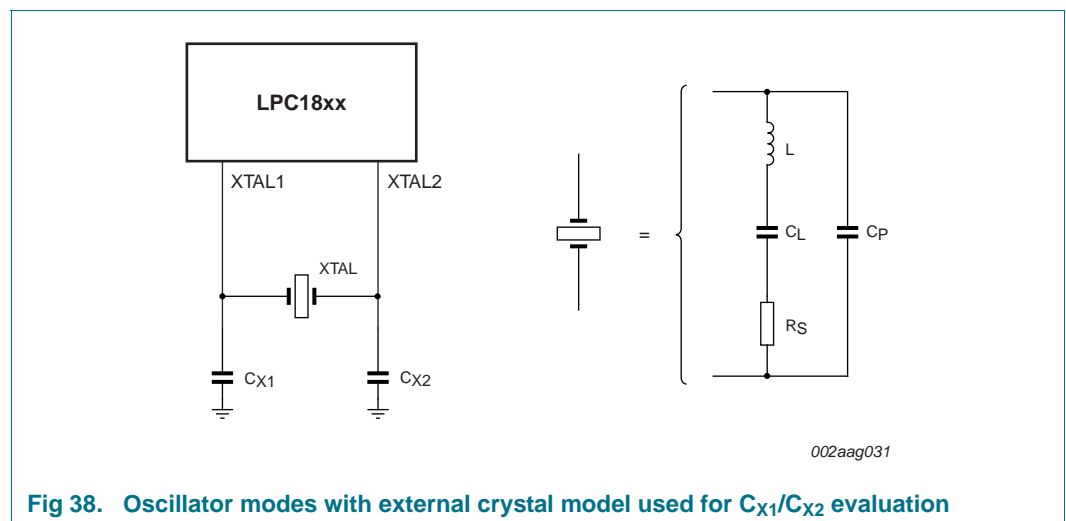

Fig 38. Oscillator modes with external crystal model used for C_{X1}/C_{X2} evaluation
- External components and models used in oscillation mode are shown in Figure 38, and in Table 30 and Table 31. Since the feedback resistance is integrated on chip, only a crystal and the capacitances C_{X1} and C_{X2} need to be connected externally in case of fundamental mode oscillation (the fundamental frequency is represented by L , C_L and R_S). Capacitance C_P in Figure 38 represents the parallel package capacitance and should not be larger than 7 pF. Parameters F_C , C_L , R_S and C_P are supplied by the crystal manufacturer.